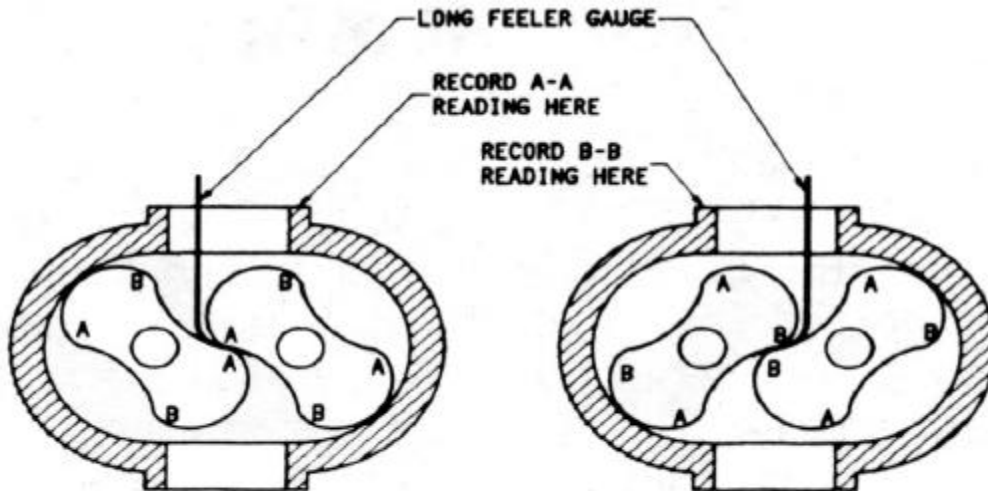

Figure 7.
- Use feeler gauges to check the clearance at AA (right hand reading) and BB (left had reading) see Figure 7. The clearance should be adjusted so they are as equal between all lobes as possible. Usually between .002 to .003. For the results use feeler gauges no larger than .006.